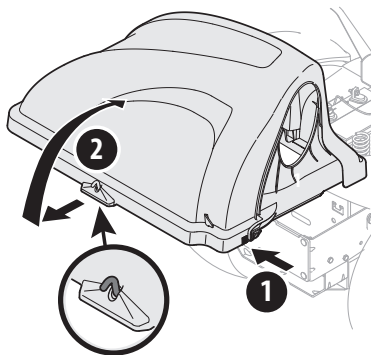

Figure 28
2. Open the bagger cover by pushing in on the rear, right-side tab with your right hand, as seen in (1) of Figure 28, and lifting the cover with your left hand in the center rear of the bagger cover (2). Do not remove the chute tube assembly from the tractor.